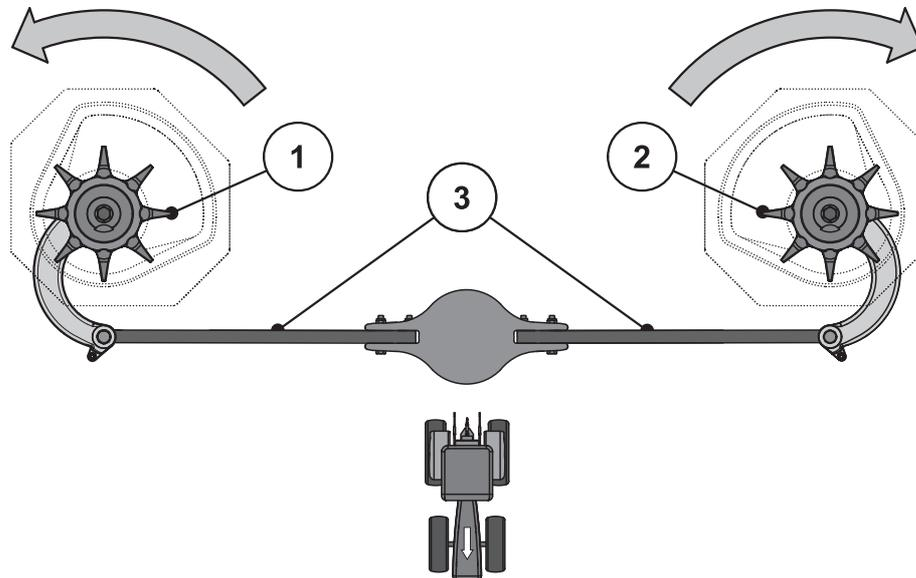

Figure 9.8: Check agitator drive
2. Turn the agitator head manually **in the rotational direction of the spreading discs**. See Figure 9.8.
3. Turn the head manually or with the help of an oil filter belt forcefully **against the rotational direction of the spreading discs**. See Figure 9.8.